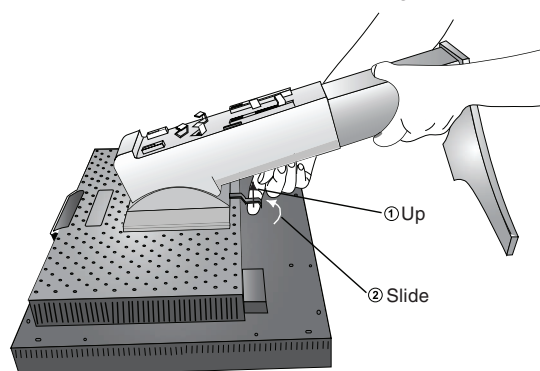

Figure S.2
4. Place one hand around the base and one hand on the Quick Release Lever. Move the Quick Release Lever in the direction indicated by the arrows (**Figure S.2**).